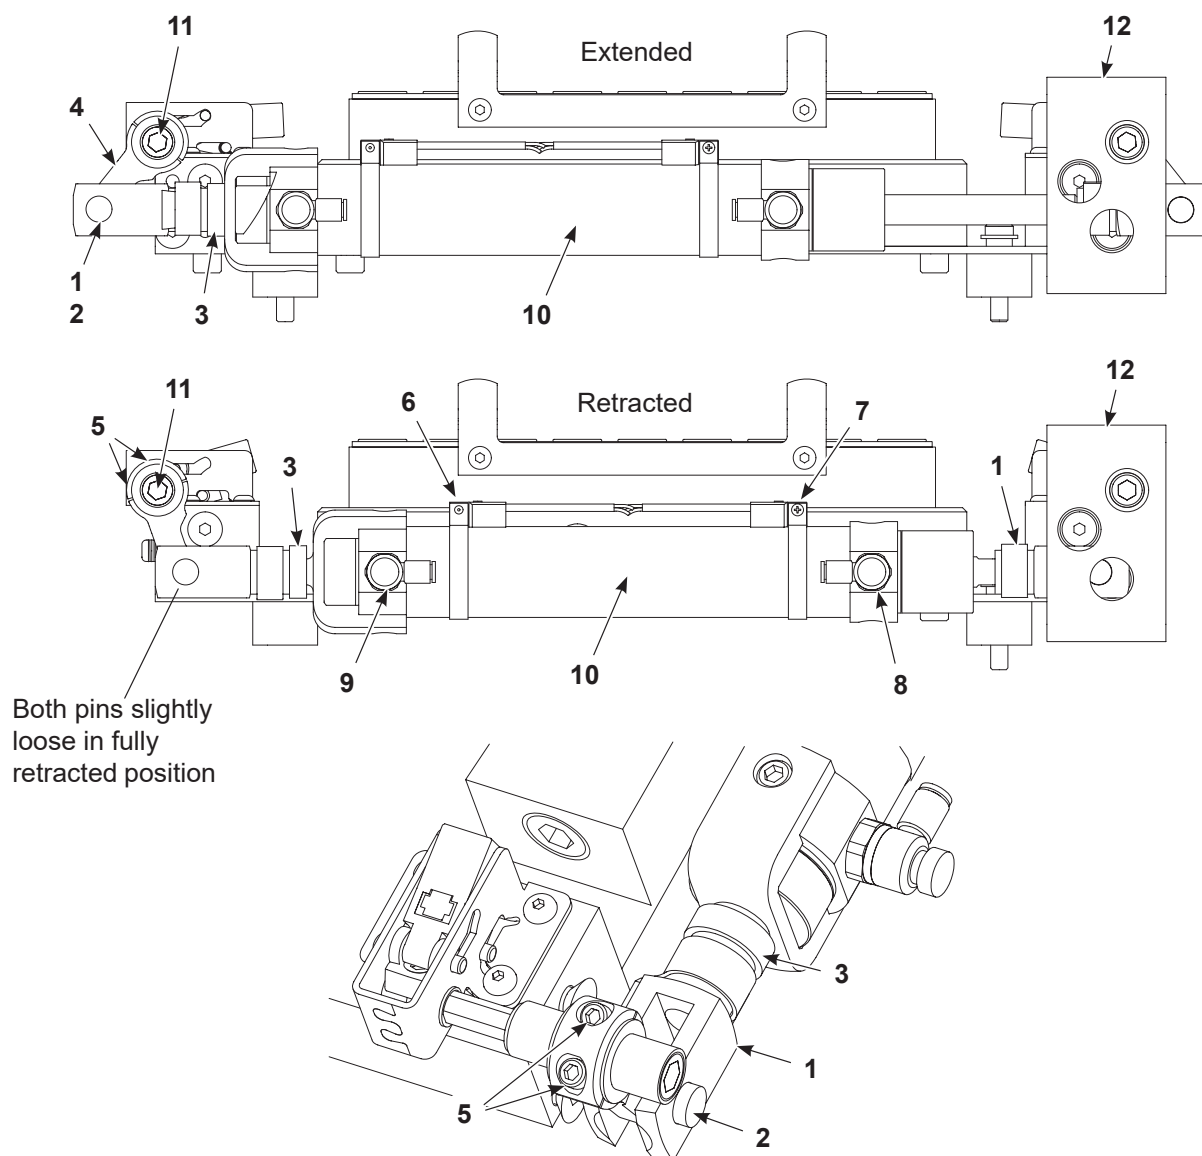

Figure 8-6 Clamping Cylinder Replacement
2. See Figure 8-6. Disconnect the air tubing from the cylinder flow control valves.
4. Remove the clamp screws (5) on each lever assembly (4), then remove the cylinder assembly (10), and lever assembly (4) from the manifold shaft (11).
5. Discard the old cylinder assembly (10) and lever assemblies (4).
6. Remove the proximity switches (6, 7) from the new cylinder assembly (10).
7. Center the new cylinder assembly (10) inside cylinder adapter spacer (12) with the latches in fully open position and the cylinder fully retracted.